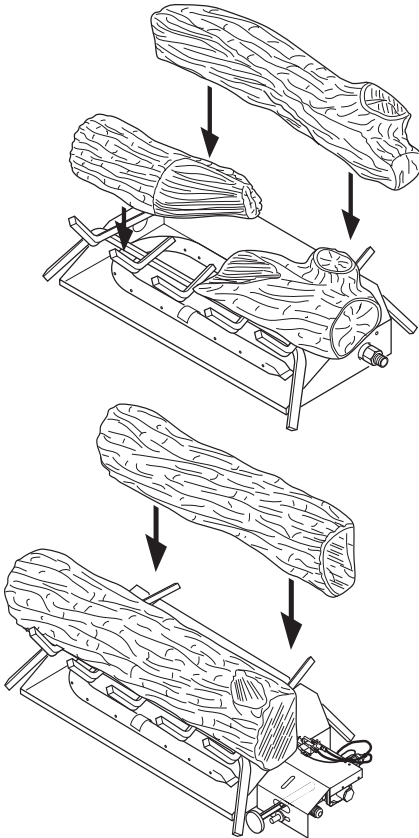

Figure 16 - Installing Front and Back Logs (Number and style may vary)
3. Place back log on grate onto grate steps (see Figure 16, page 13).
4. Place front log(s) on grate and slide forward against front bars on grate (see Figure 16, page 13).